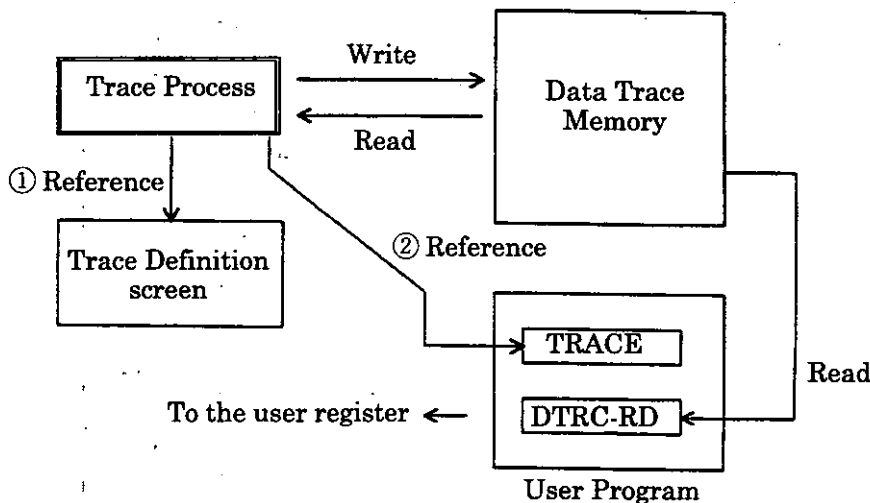

Fig. 9.1 Data Tracing
There are 2 types of data tracing shown as ① and ② in the Figure 9.1.